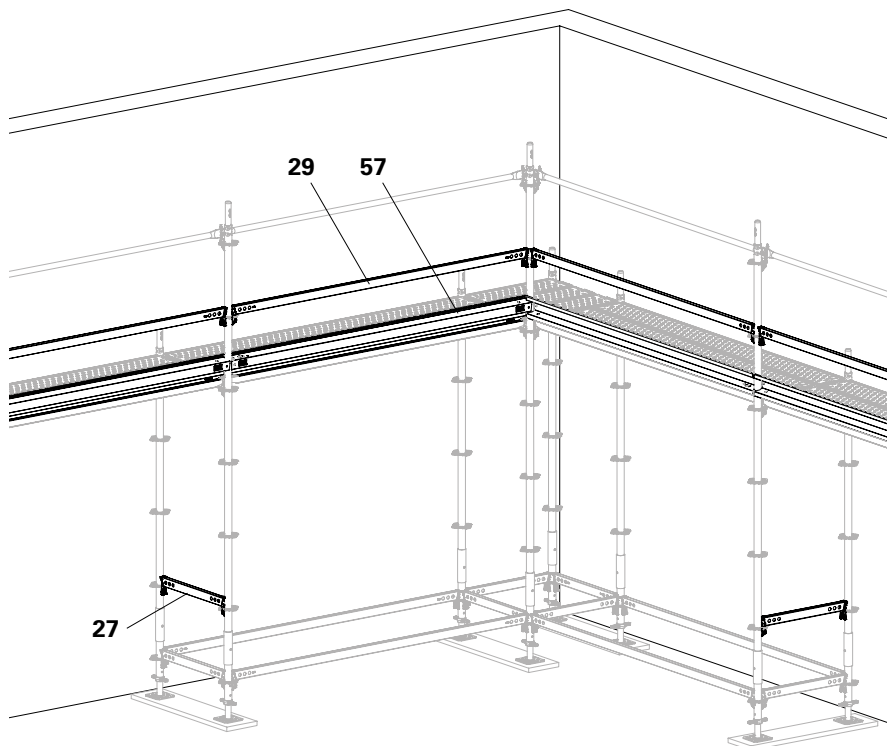

Fig. B6.12
- The inside corner is now complete. (Fig. B6.12)